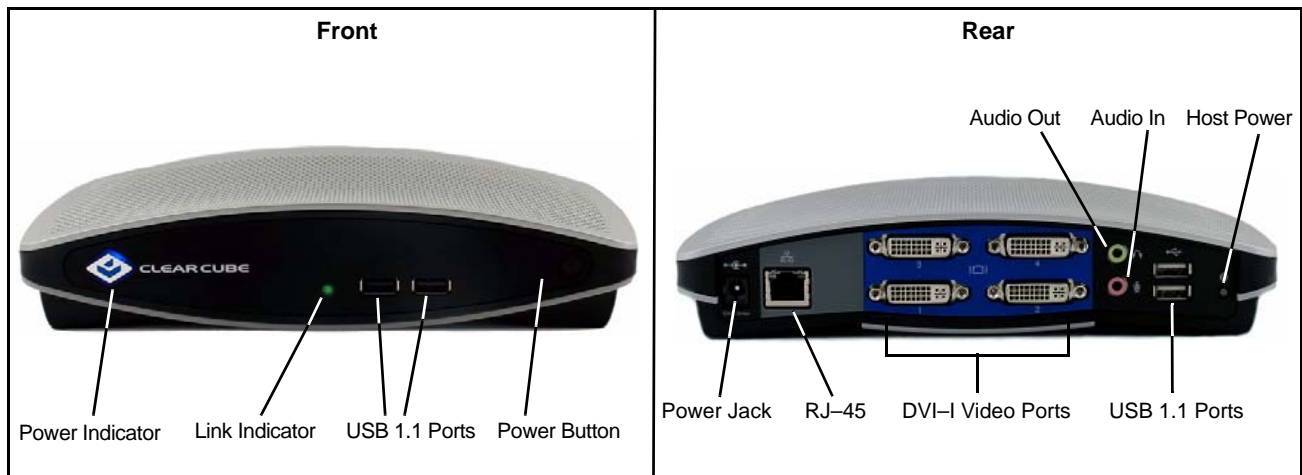

Figure 8. I9440 I/Port Front and Rear
- I9440 I/Port—Figure 8 on page 11